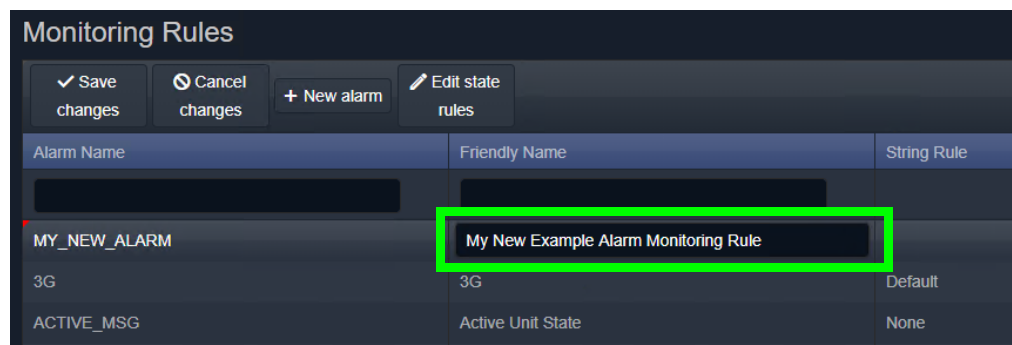

Figure 64: Enter a Friendly Name for the Monitoring Rule
- 3 Enter a friendly name (title) for the new **Monitoring Rule**, a human-readable text string. See Figure 64.